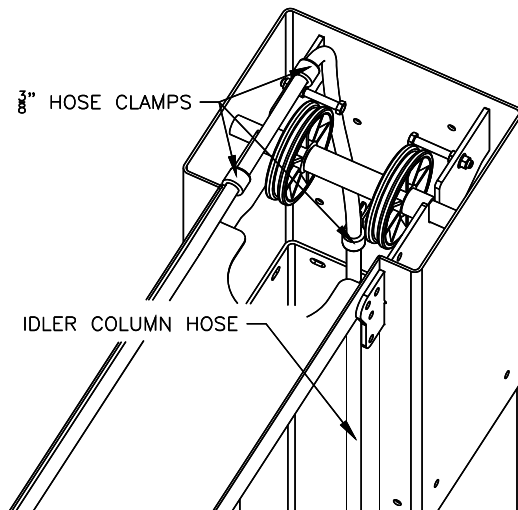
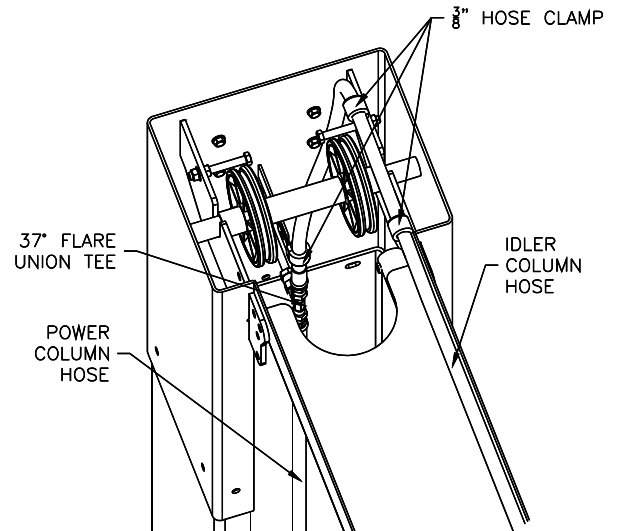

Fig 8a – Hose Routing, Idler Side Column Ext.
Fig 8b – Hose Routing, Power Side Column Ext.
24) Uncoil Idler side hose and route through the Idler Side column extension as shown in **Fig 8a**. taking care to avoid the synchronizing cables and hydraulic cylinder path. Remove slack and tighten all 3 clamps. Route hose across overhead avoiding the synchronizing cables and down through the Power Side column extension as seen in **Fig 8b**. Do Not Tighten Clamps at this time.
25) Loosely attach power column hose and idler column hose using the tee fitting (*in hardware box*) Attach Power Unit Hose to power side column extension as seen in **Fig 9a**. Connect Power unit hose to tee from **Fig 8b** and remove slack from power column hose. Tighten loose fittings and clamps from previous step. Serpentine any extra hose length in overhead.